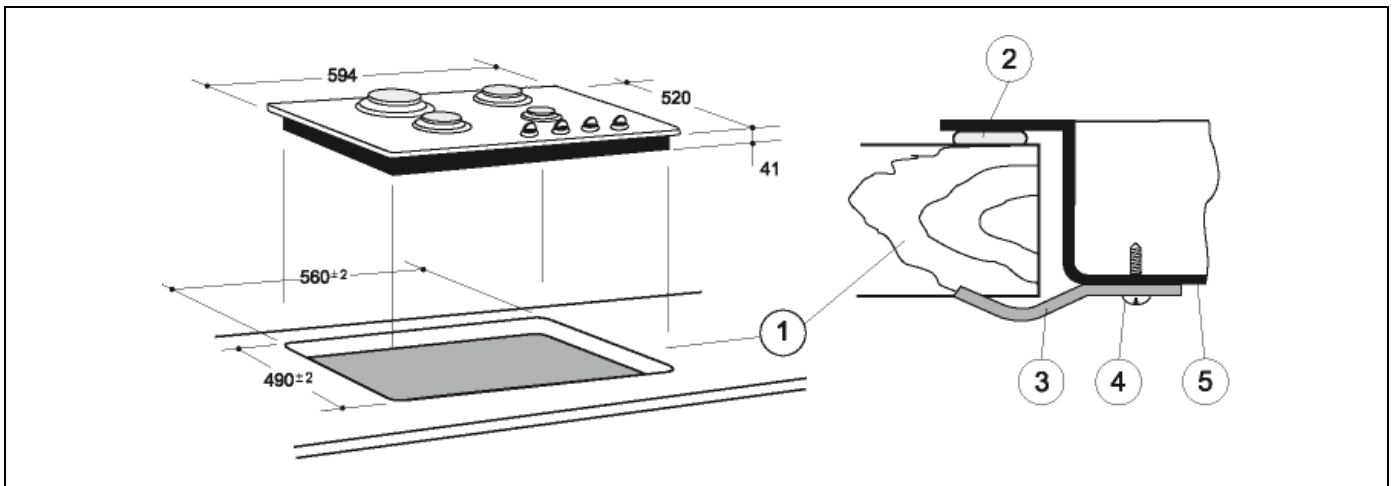

Fig.4
2. Cut out a rectangular 490 x 560 mm hole in the worktop 1 (fig. 4).
4. Place the hob face down and affix the sealing gasket 2 all around the hob (fig. 4 and 5)